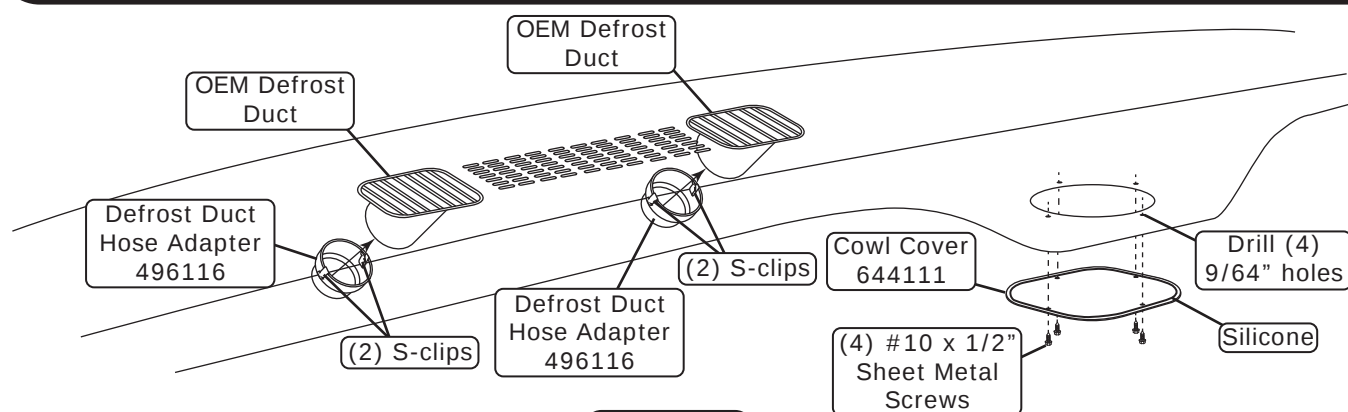

Figure 1
3. Hold the cowl cover under the dash and mark the (4) mounting holes.
4. Drill (4) 9/64" mounting holes under the dash.
5. Apply a 1/4" bead of silicone around the back side of the cowl cover as shown in Figure 1, below.
6. Secure the cowl cover to the fresh air hole using (4) #10 x 1/2 sheet metal screws as shown in Figure 1, below.